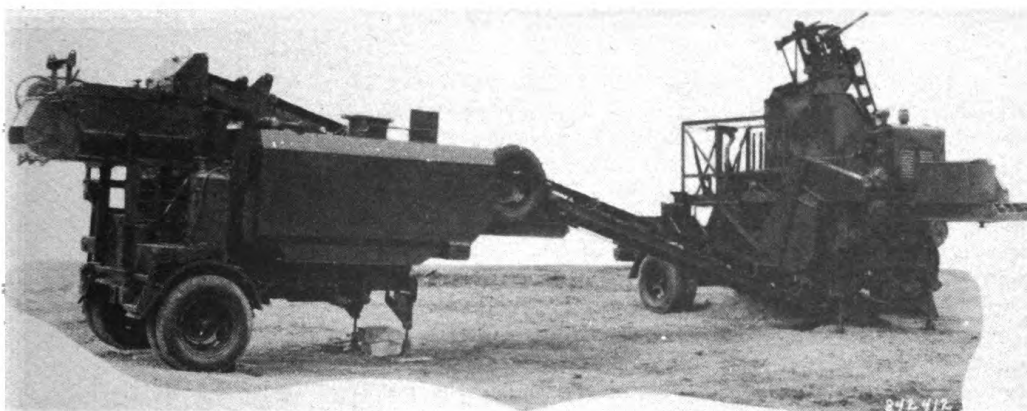

FIGURE 18
*Soil aggregate plant set up showing Mixer at right and Soils Unit at left. The latter is being fed by the Bucket Elevator. This is the opposite side from that shown in Figure 18.*